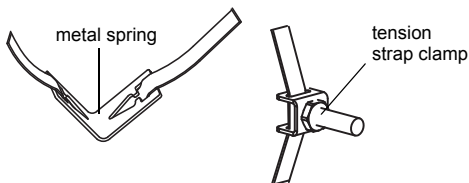

Fig. 7.9: Tension strap with tension strap clamp and metal spring
- Insert the tension strap in the tension strap clamp and the metal spring (see Fig. 7.9). It is not necessary to mount the metal spring: